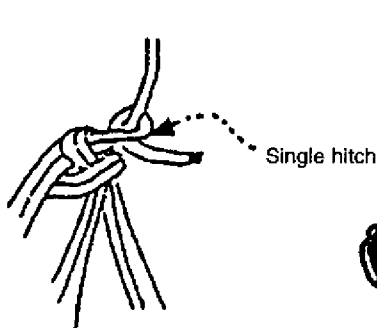

Fig. 3-53-3
- (c) Add a single hitch. (Fig. 3-53-3)